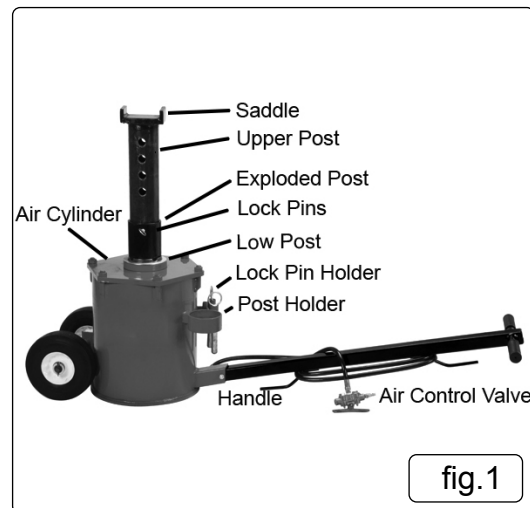

fig.1
4.1.1. Attached handle to the handle bracket (2 part) on cylinder set with bolts and nuts provided. fig.1